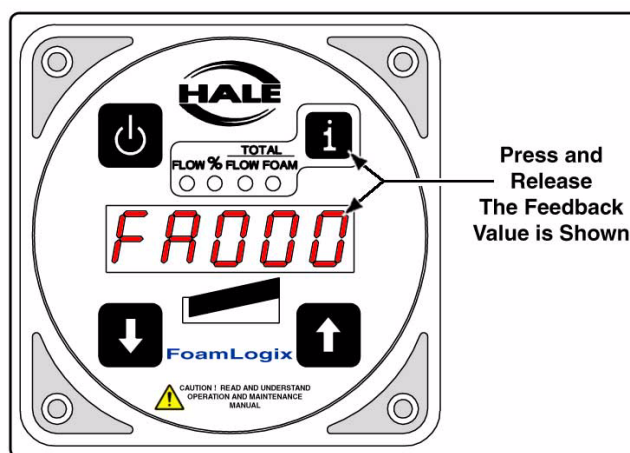

Figure 4-11: Feedback Calibration Factor, Tank “A” Shown
2. The display shows **FA xxx** for Tank “A”, or **FB xxx** for Tank “B” for the foam pump feedback calibration factor. (See Figure 4-11: “Feedback Calibration Factor, Tank “A” Shown.”)